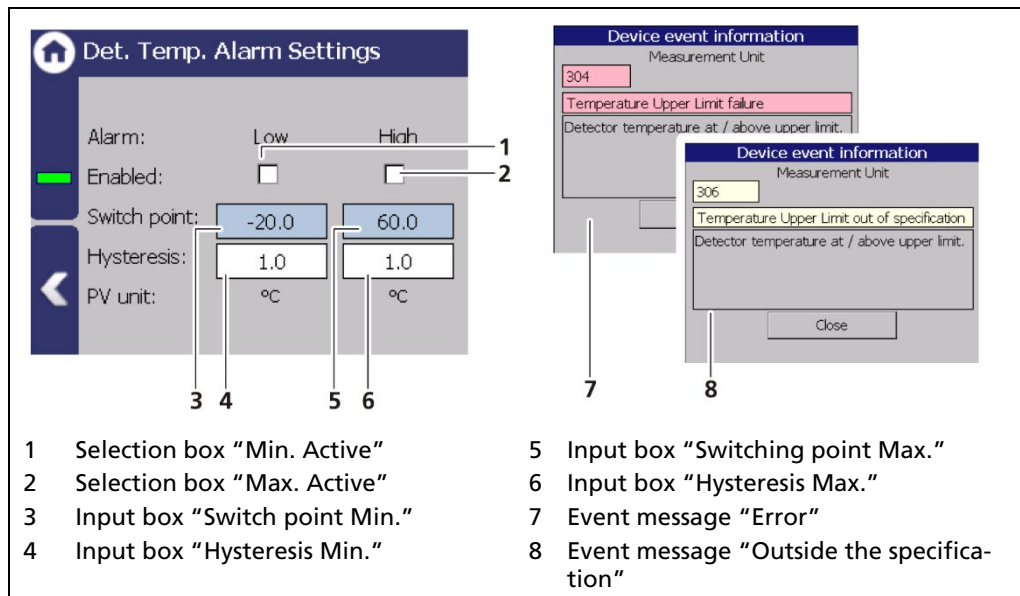

Fig. 124 Det.-Temp Alarm Settings
1. Activate the check box (Fig. 124, item 1).
1. Click on the input field (Fig. 124, item 2) to enter a switching point.
1. Activate the check box (Fig. 124, item 3).
2. Click on the input field (Fig. 124, item 4) to enter a switching point.